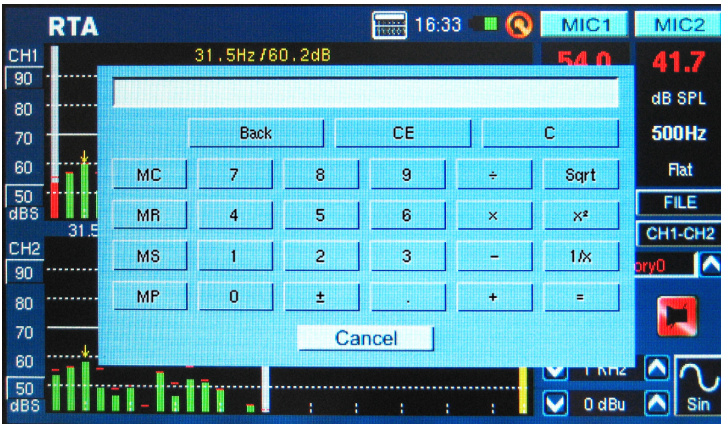

figure 8
- If you need to make quick calculations, the PAA6's calculator can be brought up without quitting your current function (figure 8).